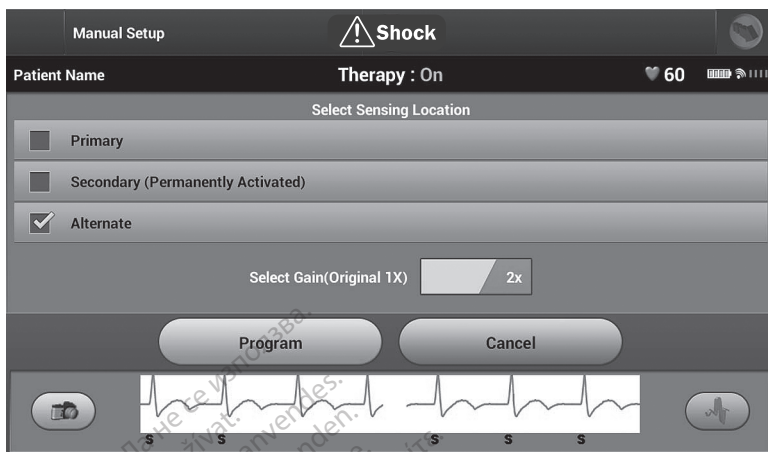

Figure 32. Manual Setup screen with sensing vector and gain options
4. There are three available sensing vectors that can be manually selected from the Manual Setup screen (Figure 32 Manual Setup screen with sensing vector and gain options on page 51).